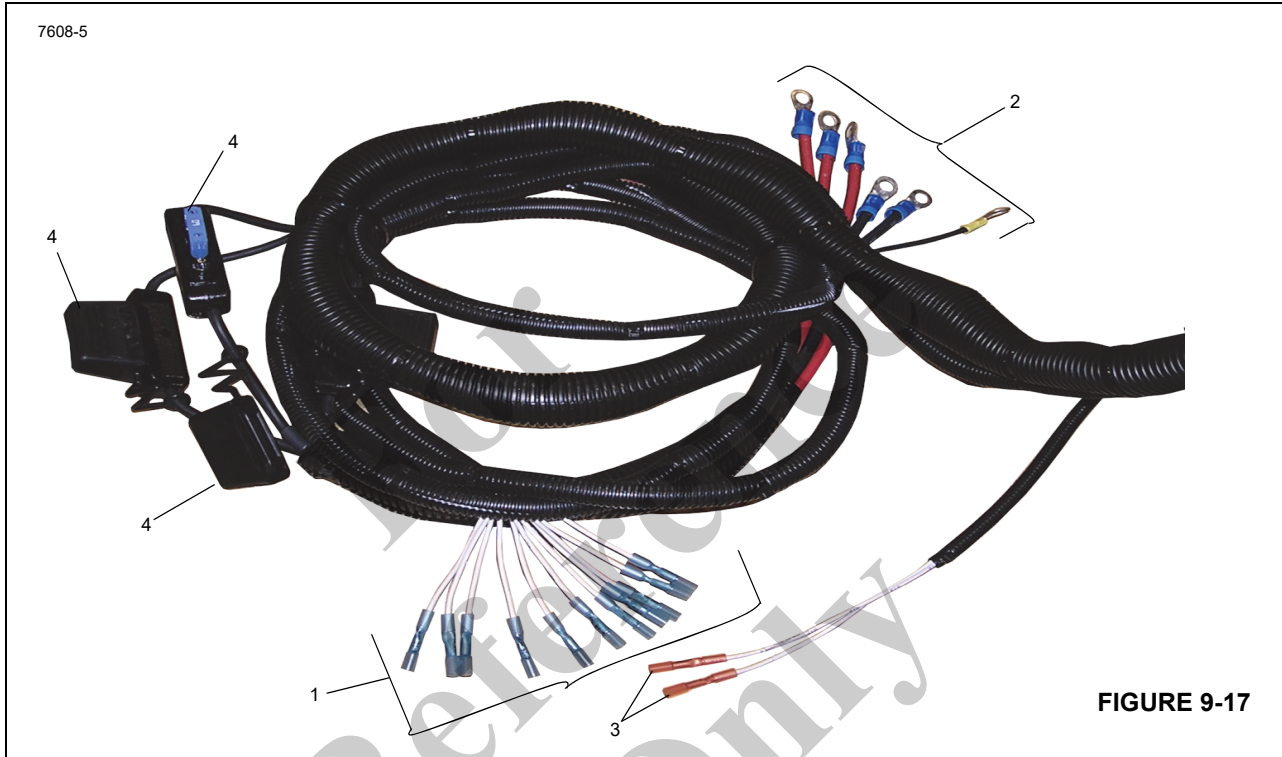

FIGURE 9-17
- Use Item 3, Figure 9-17 to connect to the truck front lights. Connect wire 1403 to connect to truck light harness and connector 51A to truck ground.
NOTE: The type of throttle supplied with the truck determines if three leads or six leads (1, Figure 9-17) are required.
Truck Interface Harness (Item #1 - Figure 9-17)
Crane Front Marker Lights (Item #3 - Figure 9-17)
Truck Battery Harness (Item #2 - Figure 9-17)
Truck Battery Harness (Item #4 - Figure 9-17)
Crane Rear Marker Lights (Not Shown in Figure 9-17)